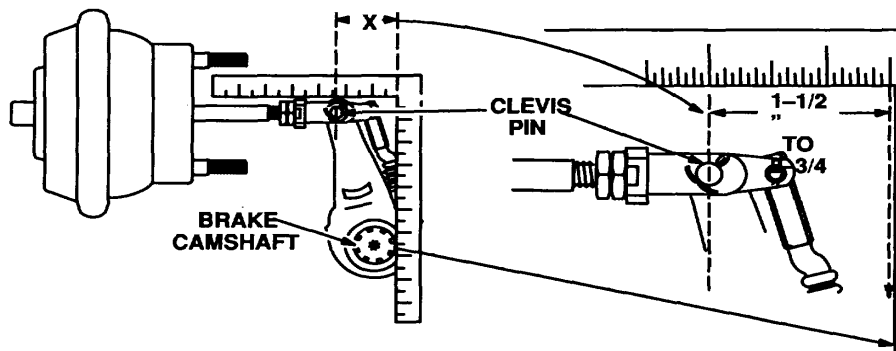

Figure 37.
Refer to Figure 37.
(3) Manually adjust brakes as follows:
- (c) Refer to Figure 37. Pull brake chamber push rod to confirm that approximately 1/2-inch of free stroke exist.
(4) Uncage spring brakes (if necessary).